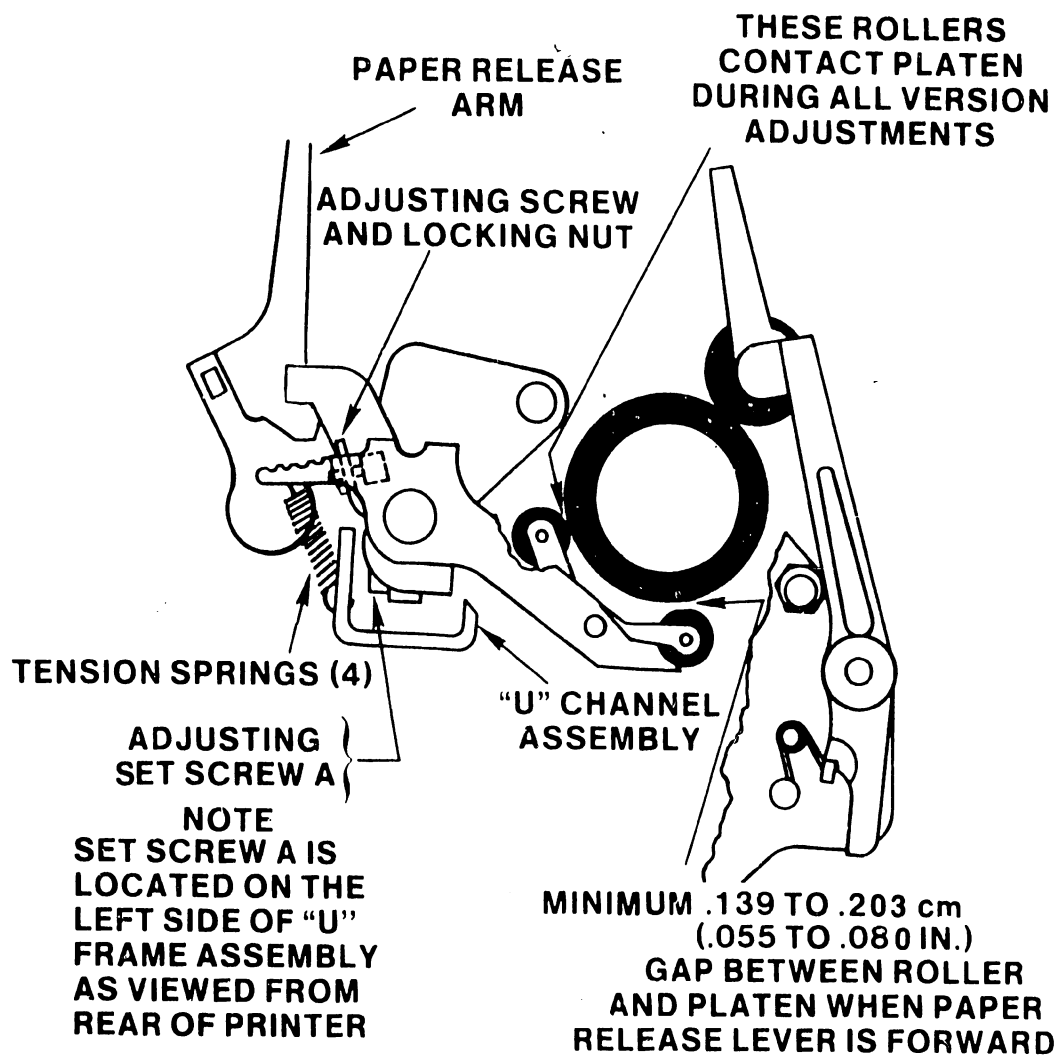

FIGURE 5-22 PAPER FEED ROLLER ADJUSTMENT
A 0.055 in. to 0.080 in. gap should be present between all the paper feed rollers and the platen when the paper release lever is in the full forward or released position as shown in Figure 5-22. There should also be equal pressure applied by each of the paper feed rollers when the pressure release lever is placed back to the rear position.
2. FIRST REVISION, all feed roller mounting arms are pinned to a common shaft. The 0.055 to 0.080 in. gap is adjusted with the adjusting set screw A in Figure 5-22. Individual adjustment of each roller will require forming of their respective arms.
3. SECOND REVISION, all the feed roller arms are individually adjustable to obtain the 0.055 to 0.080 in. paper feed roller to platen adjustment. Overall adjustment should be first obtained by adjusting set screw A. Then make individual adjustment of feed roller mounting arms by means of the screw and nut assembly on each arm as shown in Figure 5-22.
4. THIRD REVISION, only one of the feed roller mounting arms is pinned to the shaft, the others are individually adjusted by means of a screw and nut assembly located at each arm. The 0.055 to 0.080 in. gap for the fixed arm is performed first by means of the set screw A in Figure 5-22. The others are then adjusted to 0.055 to 0.080 in. by means of the screw and nut assembly located on the remaining arms.